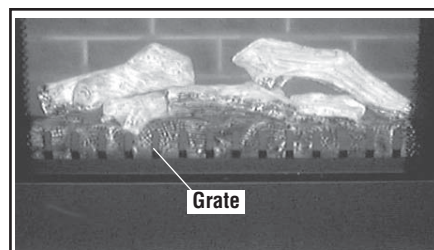

Figure 8
- a. Remove the 2 screws on the front of the grate. Remove Grate (see **Figure 8**).